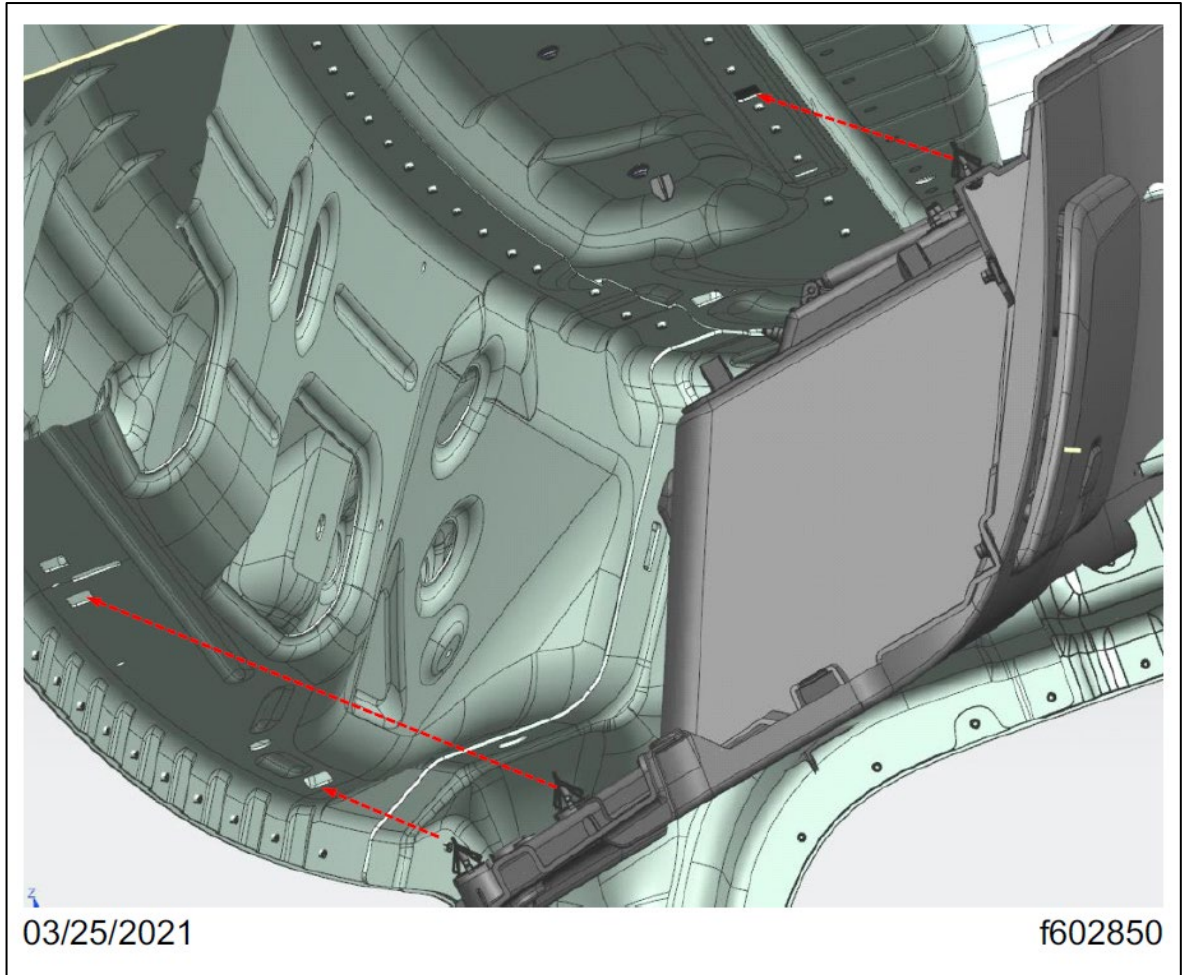

Fig. 59, Insert the RH Side Overhead Storage Unit Clips
12.2. Insert the clips on the RH side overhead storage assembly into their respective slots on the cab roof as shown in Fig. 59.